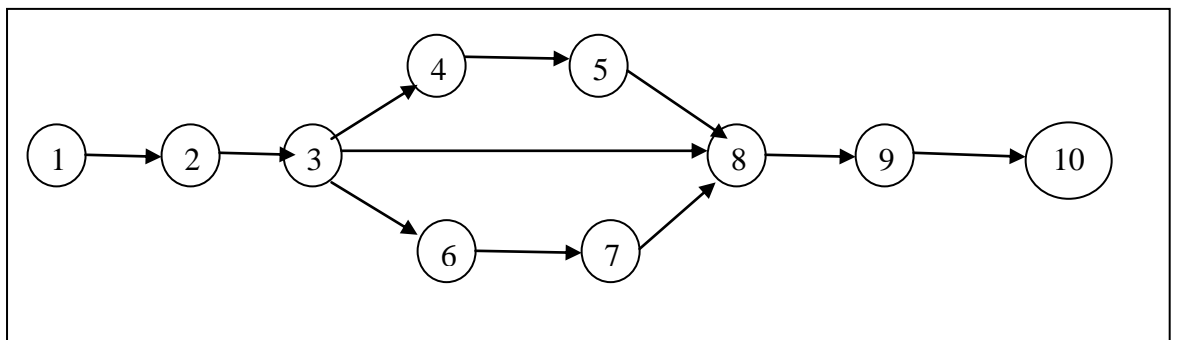

Figure 1 / Rajah 1
7. (a) Using the information given in **Figure 1** and Table 2 below, draw a precedence diagram network and then fill up the boxes with the calculated values of early start time (EST), late start time (LST), early finish time (EFT), late finish time (LFT) and total float.